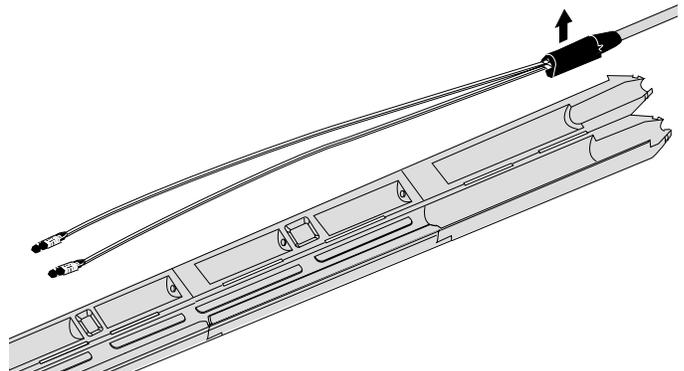

Figure 12
c) Lift the cable plug from the grip (Figure 12) and install the plug and connectors according to the appropriate hardware instructions.